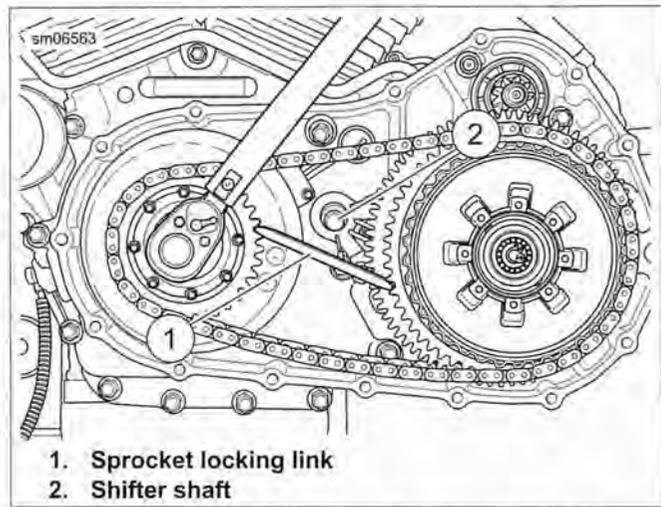

Figure 5-35. Tighten Engine Sprocket Fastener
- See Figure 5-35. Do not position the sprocket locking link (1) too close to the shifter shaft (2). If the sprocket locking link contacts the shifter shaft while you are exerting force to tighten the engine sprocket bolt, damage to the shifter shaft and/or the engine crankcase may result.
3. See Figure 5-35. Install SPORTSTER 5-SPEED SPROCKET LOCKING LINK (Part No. HD-38362) (1).